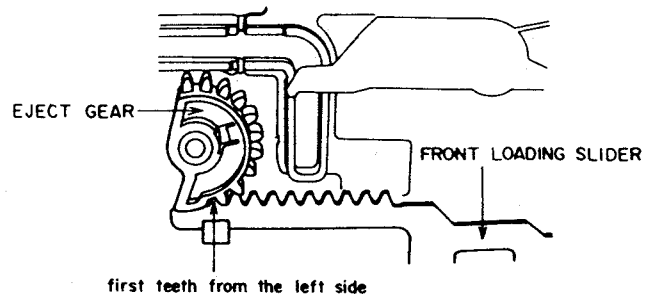

Fig. 3-14
- 1) Confirm that the EJECT GEAR is in the correct position as shown in Fig. 3-14.